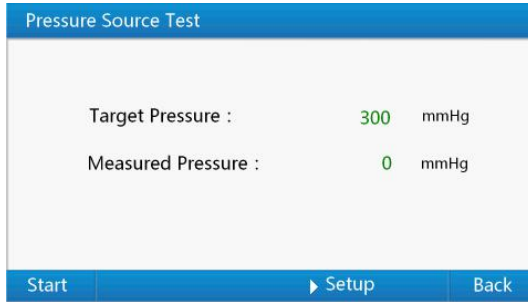

Figure 14 Pressure source test interface
- 1) Use up or down key in "**Pressure Test Menu**" to select "**Pressure Source**", then press "**Enter Key**" to "**Pressure Source Test**" interface shown as Figure 14.Pressing "**Return Key**" in this interface can get back to "**Pressure Test Menu**".As a shortcut, you can use the number key "**3**" to "**Pressure Gauge Test**" interface firstly, then press "**Enter Key**" to the "**Pressure Source Test**" interface.